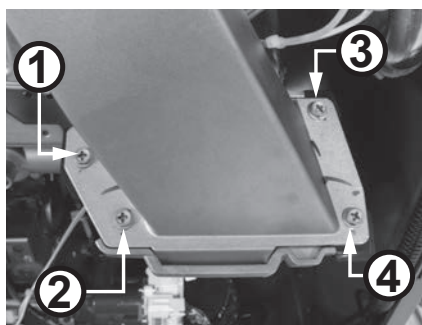

Figure 88 - Remove fan assembly screws
- 10** Locate the four (4) screws securing the fan assembly to the burner assembly as shown in Figure 88. Use a Phillips screwdriver to remove the screws. Place the screws aside in a safe place for reinstallation.